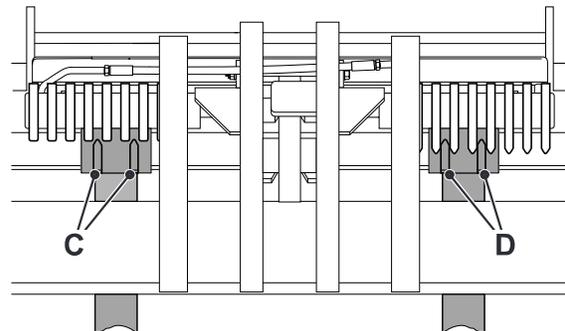

Fig 338. View from Rear of Carriage
- 1 Raise the boom and tilt the carriage forward until the left hand fork fingers **C** disengage from the cylinder, leaving the right hand fork fingers **D** engaged. → Fig 338. \(□ 335\).